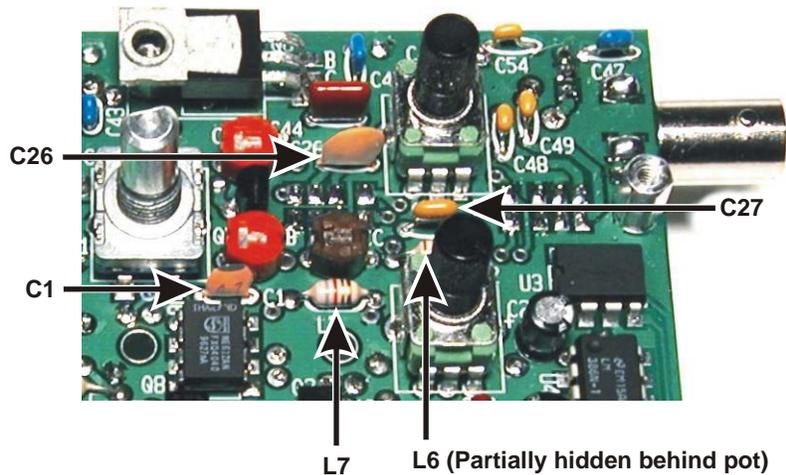
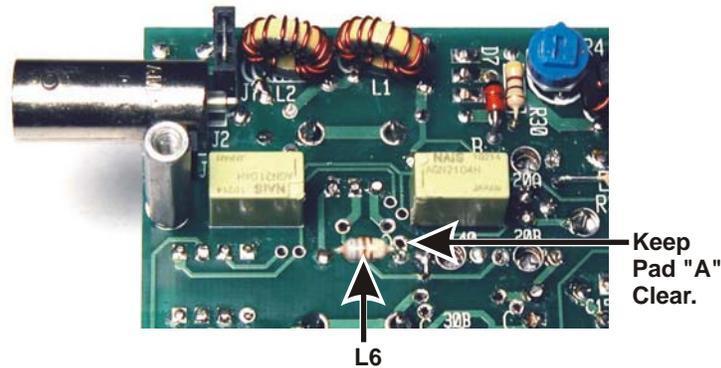

Figure 1. KX1 PCB Original Component Locations.
Figure 3. L6 Relocated on Bottom of KX1 PCB.
- Replace C26 on the KX1 PCB (see Figure 1) as follows:
- Remove the existing 120 pF (121) capacitor. It will no longer be used. Clear all the solder from the pad holes.
- Install the 56 pF (56) capacitor supplied with the KXB3080 kit. Form the leads of the new capacitor as needed to fit. Be sure the capacitor stands no higher than 5/16" (7.9 mm) above the board. After soldering, trim the leads flush. Save the leads for use as jumpers later.
- Replace C1 on the KX1 PCB (see Figure 1) as follows:
- Install the 15 pF (150) capacitor supplied. Form the leads of the new capacitor as needed to fit. Be sure the capacitor stands no higher than 5/16" (7.9 mm) above the board. After soldering, trim the leads flush.
- Remove molded inductor L7, 4.7 μ H (yel-vio-gold) (see Figure 1). It will no longer be used. Clear all the solder from the pad holes.
- Remove capacitor C27, 150 pf (151) (see Figure 1). It will no longer be used. Clear all the solder from the pad holes.
- Remove molded inductor L6 from the top side of the PCB (see Figure 1) and reinstall it on the bottom of the PCB as shown in Figure 3. Be sure you place the leads in the same solder pads L6 originally occupied. In case you damage the inductor while removing it, a replacement is provided: 6.8 μ H (blu-gry-gld). When soldering L6 in place, do not fill the pad for connection A. This pad will be needed later to attach the KXB3080 module. Trim L6's leads flush with the top of the PCB.